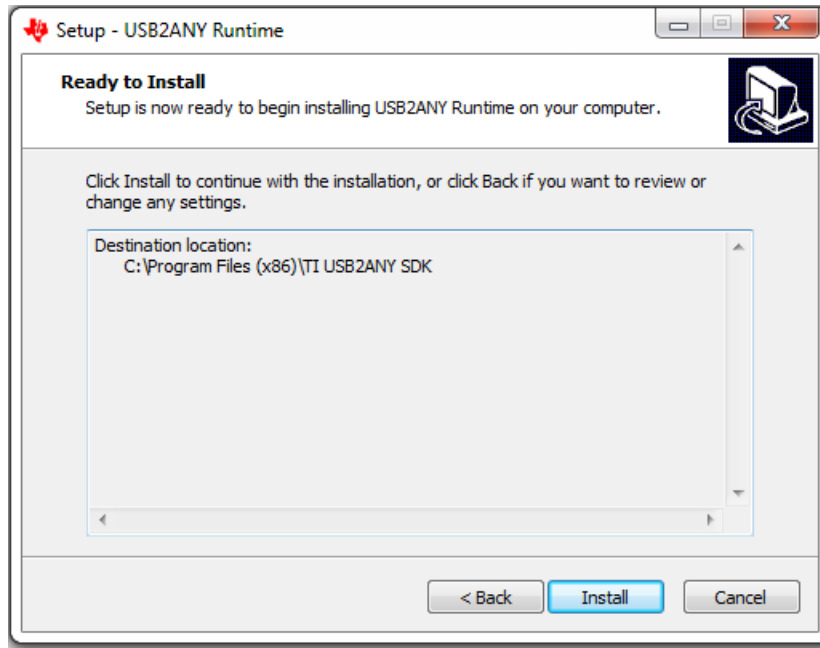

Figure 21. USB2ANY Start Installation
12. The screen shown in Figure 21 appears. Click the *Install* button to begin the USB2ANY installation.